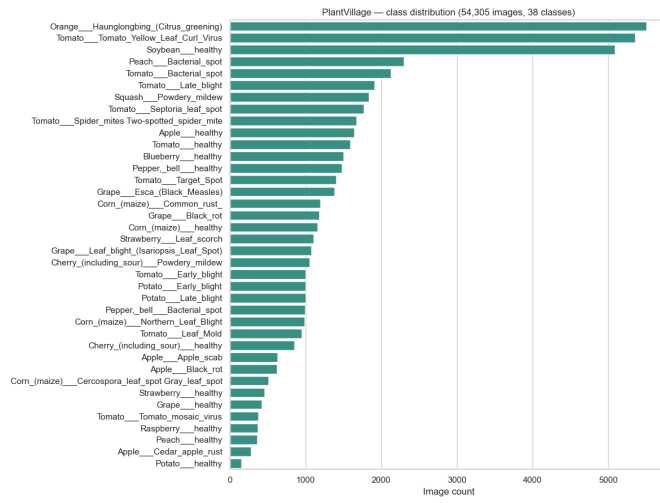

Figure 1: Class distribution across the 38 PlantVillage classes.
1. **Class distribution bar chart** (Figure 1). Confirms the imbalance described above and motivates a class-weighted loss or weighted sampler.